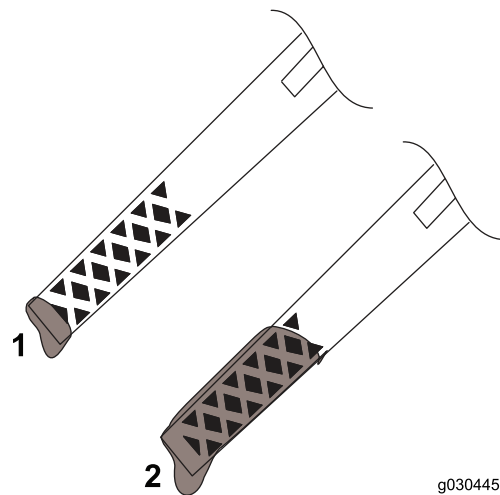

Figure 14
- If the oil level is below the Add mark on the dipstick (Figure 14), add oil. Refer to 3 Filling the Engine with Oil \(page 5\).